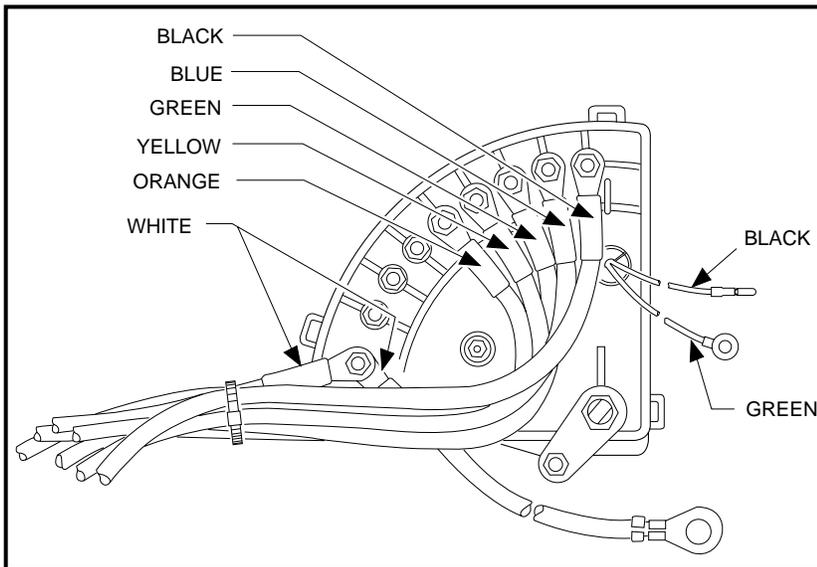

Figure 12-9 V-Glide Wiper Switch Wires
4. Connect the 18 gauge black wire to black lead from charger receptacle (**Figure 12-9, Page 12-12**).